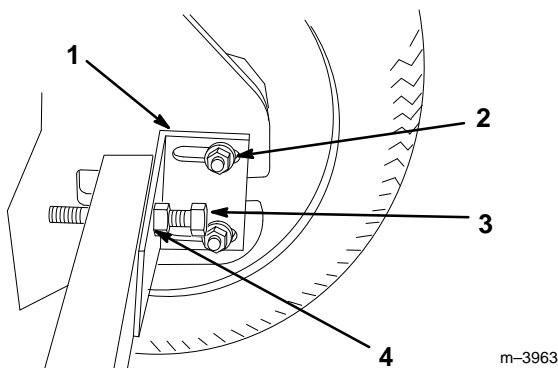

Figure 24
3. Loosen the nuts securing the axle retaining bracket (Fig. 24).
- Loosen the jam nut on the chain tensioning bolt and loosen the bolt (Fig. 24).
- Position the axle retaining bracket tight against the axle and the frame, then tighten the jam nut on the bolt to secure it in place (Fig. 24) and torque the nut to 30 ft-lbs (40.7 N·m).